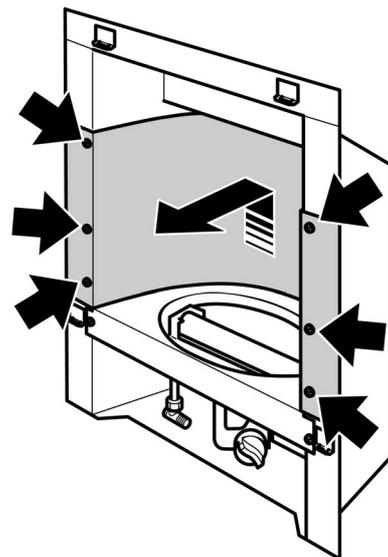

Figure 42. Removal of Inner reflector
4. Remove the six screws from the side of the inner reflector (See figure 42).
Be careful not to scratch the top surface of the burner cover (See figure 42). Place the inner reflector in a safe place away from the work area.